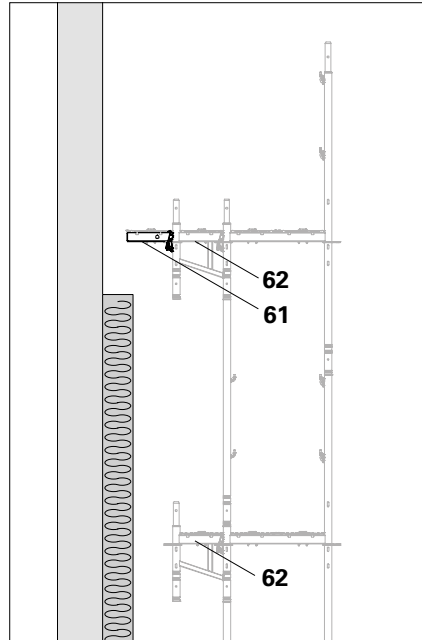

Fig. D1.08
2. Dismantle End Guardrails EPF (53) and Guardrail Posts EVP (50) at the edge bays.
4. Dismantle Supports UC 33 (61) or Console Brackets ECM 33. (Fig. D1.08 + D1.09)